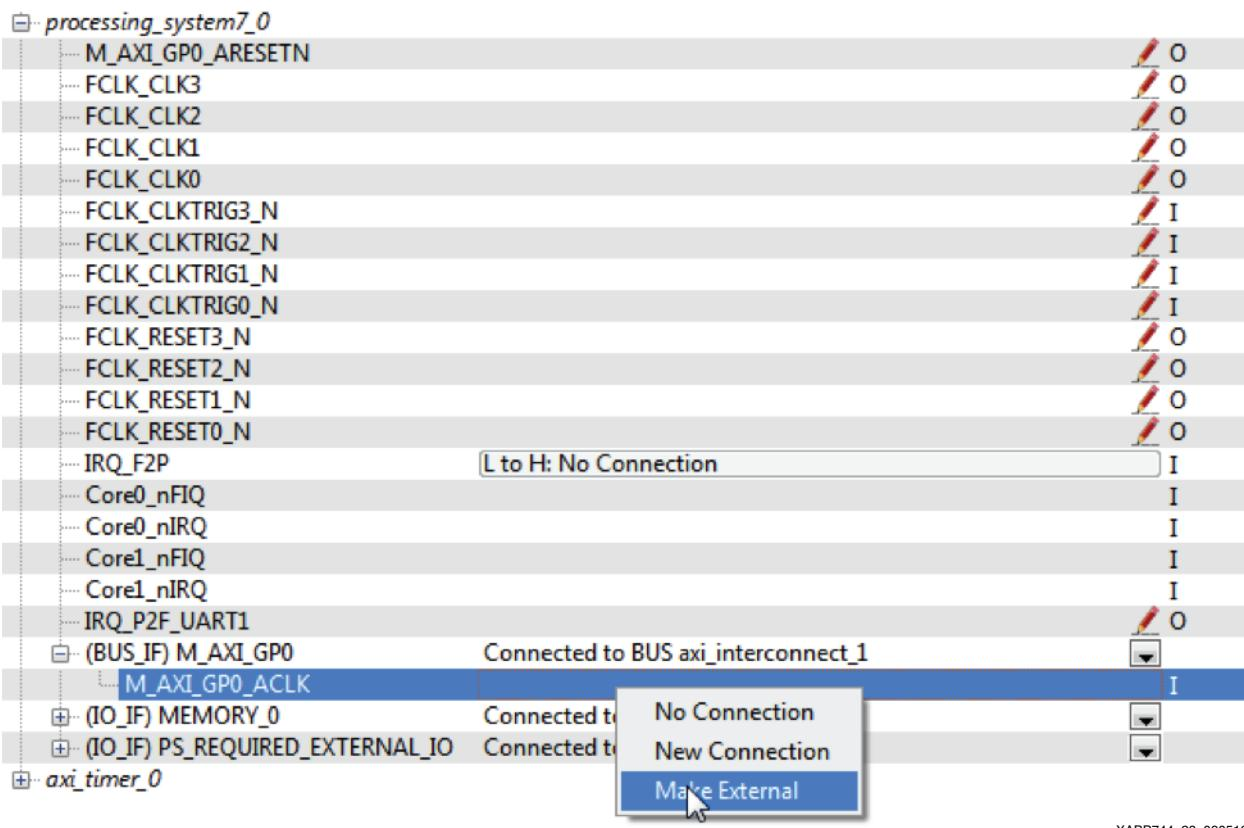
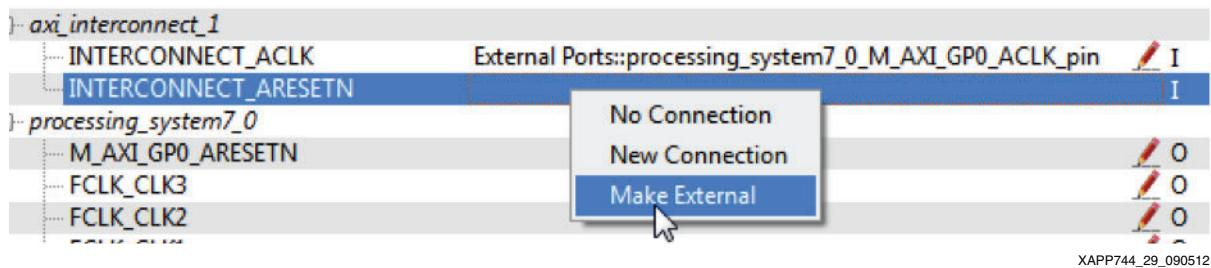

Figure 28: Setting External Clock Signal Connection
Figure 29: Setting External Reset Signal Connection
12. Mark the AXI interface clock and reset signals external by right-clicking the port and selecting **Make External** as shown in Figure 28 and Figure 29. The clock and reset signals are now driven by the testbench.